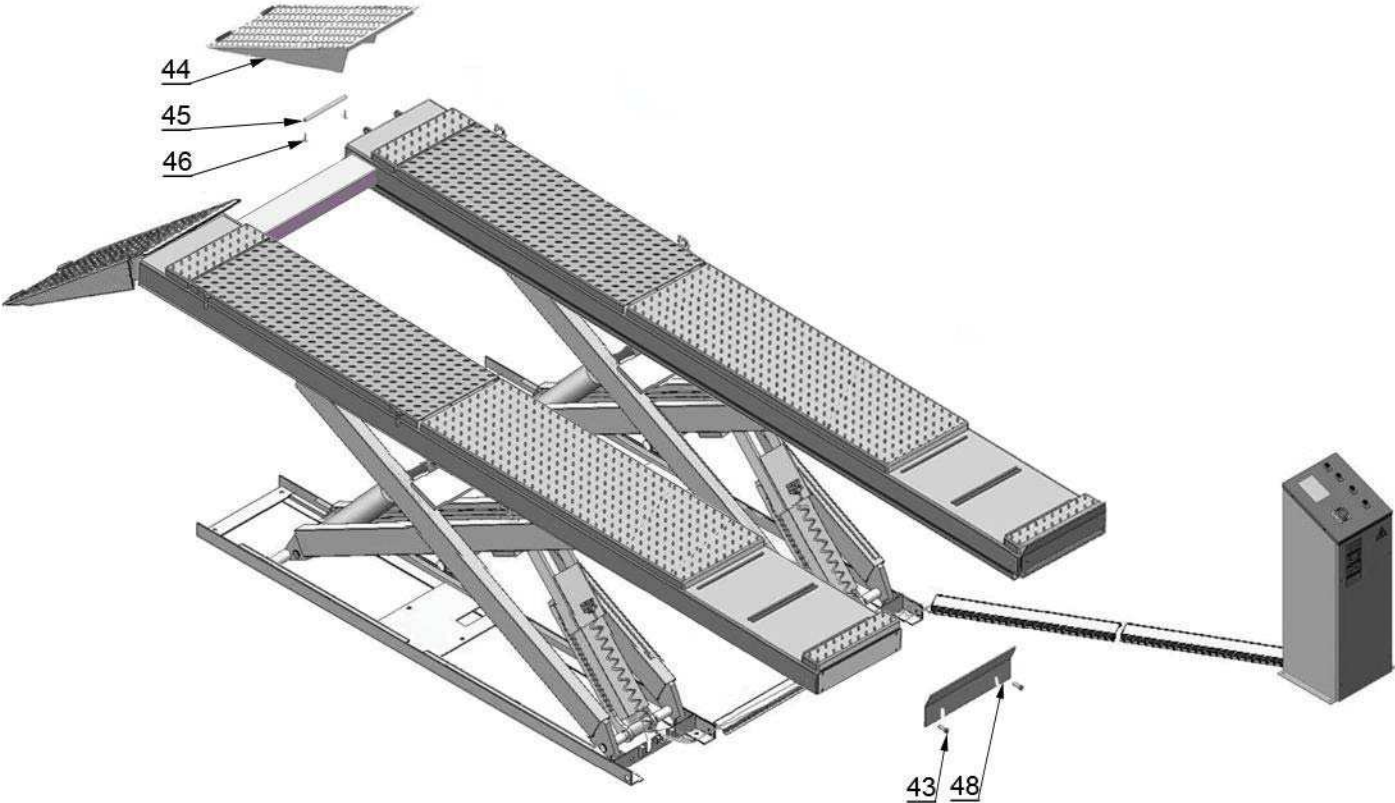

Fig. 4
1.2 Illustration for on surface installation (See Fig. 4).